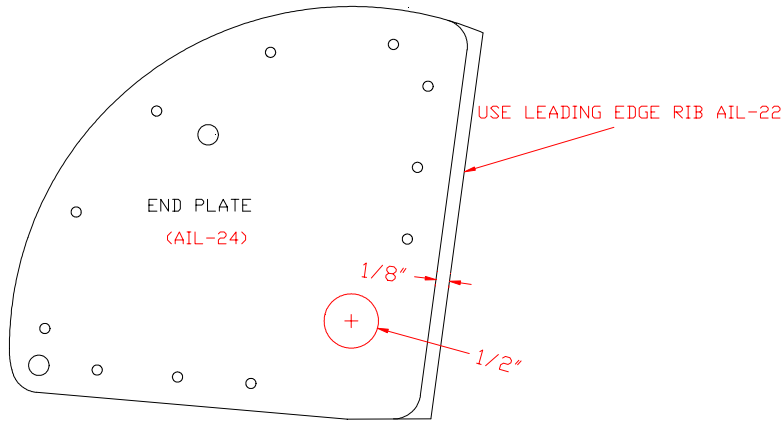

Figure 6.5.5
- 14) Prepare a End Plate for the mid point hinge by drilling the #11 pivot hole to 1/2". This endplate must be trimmed to fit. Use the AIL-22 leading edge rib to mark the end plate for trimming. Trim 1/8" back from the mark made using the rib. Figure 6.5.5.